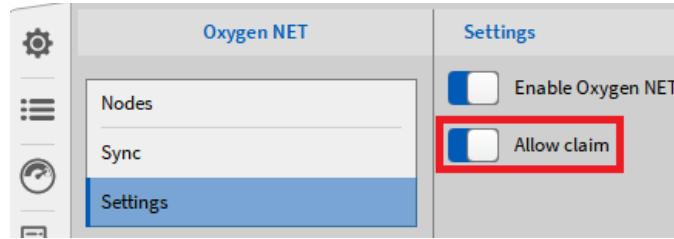

Figure 12-14: Allow claiming of slave devices
- Select *Allow claim* on the devices that shall be configured as slaves (see Figure 12-14). Without enabling *Allow claim*, the Slave units cannot be claimed by the Master unit.